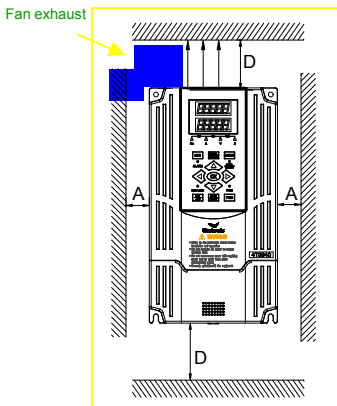

Figure 3-1 Spacing distance for installation
Requirements for installation spacing distance of single frequency inverter are as shown in figure 3-1. Reserve enough space around the frequency inverter.
- As shown in Figure 3-1 and 3-2: $A \geq 50\text{mm}$, $D \geq 120\text{mm}$